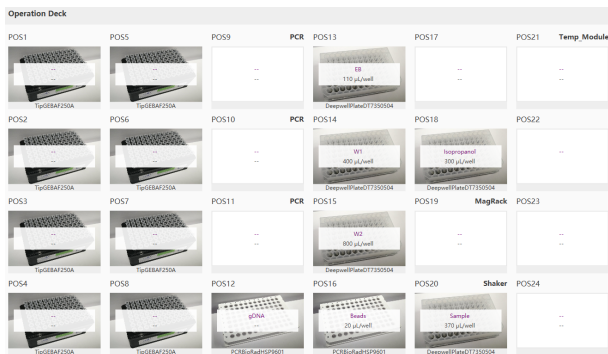

Figure 7 Nucleic Acid Extraction Operation Deck Arrangement
- Click the menu button and select **"Run Wizard"** in the menu. In the Run Wizard interface, click **"Solution"**, and select **[JB-A09-027 MGIEasy Magnetic Beads Blood Genomic DNA Extraction Kit_RV1.0_SV1.1]**, click **"Script"**, select **[Genomic DNA Extraction for Blood.py]** or **[Genomic DNA Extraction for Buffy Coat.py]** or **[Genomic DNA Extraction for Saliva.py]**. Take blood samples extraction as an example, operation deck arrangement of the nucleic acid extraction phase is displayed, as shown in following figure 7 and table 9. Follow the on-screen instructions to place the consumables, samples, and reagents, as shown in the figure 7. Confirm the placement and close the door.